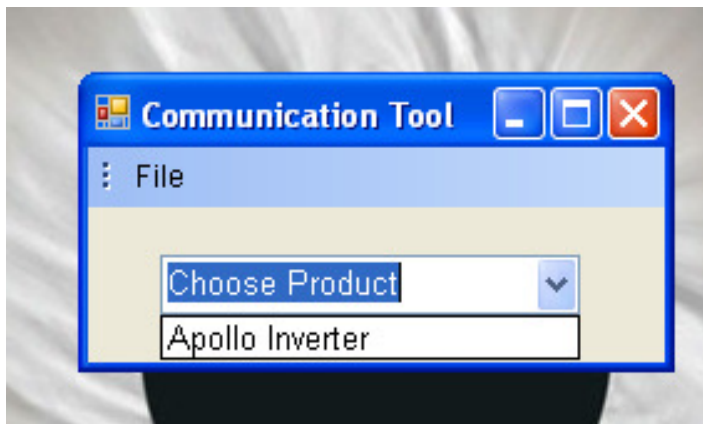

Figure 1
4. Initially, the dialog box as shown in Figure 1 will appear. An Icon will be placed on the desktop as well. This dialog box will appear whenever the AIM software is run.
When the dialog box shown in Figure 1 appears, click the down arrow to show “Apollo Inverter” then click on the text to select. The screen shown in Figure 2 will appear. This is the Inverter Manager Status screen.